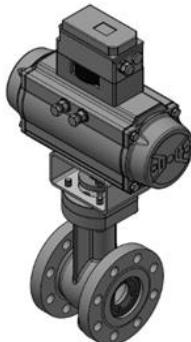

Fig. 1: Type 82.7-02/AT
- pneumatic piston actuator Type AT / BR31a → control valve Type 82.7-02/AT and 82.7-02/BR31a (Fig. 1)